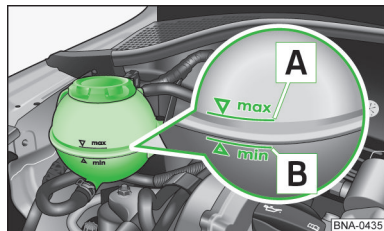

Fig. 80
Check the coolant level - the coolant level must lie between the marks **A** and **B** » fig. 80. If the coolant level is below the mark **B**, top up with coolant.
- Do not fill the coolant above the mark **A** » fig. 80. The coolant could, when heated, be expelled from the cooling system - There is a risk of damage to the engine parts.